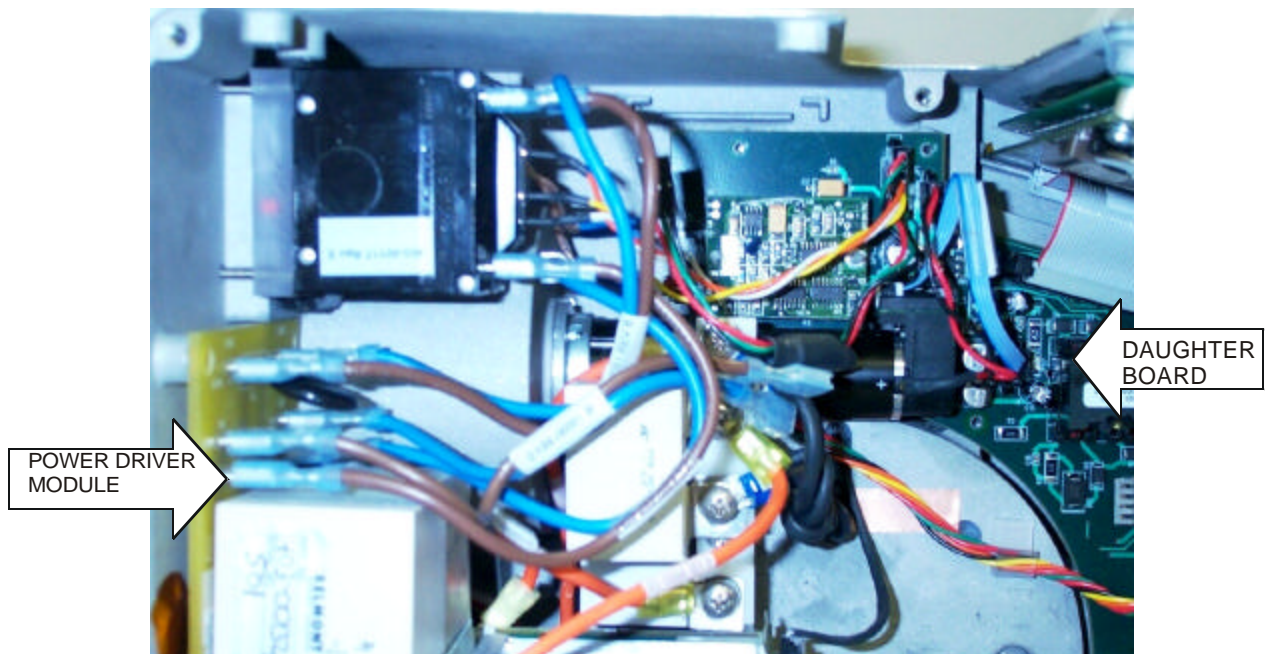

Figure 4: Attach cables and lugs as shown
3. Reattach Daughter PCB Cable. Figure 4.
4. Reattach 4X lugs to circuit breaker. Figure 4.